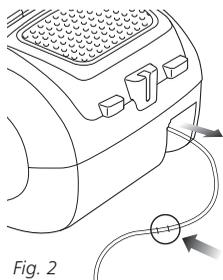

Fig. 2
- 1 To extend the power cord, pull it from the rear of the vacuum to the desired length. (Fig. 2) A yellow mark on the power cord shows the ideal cable length.